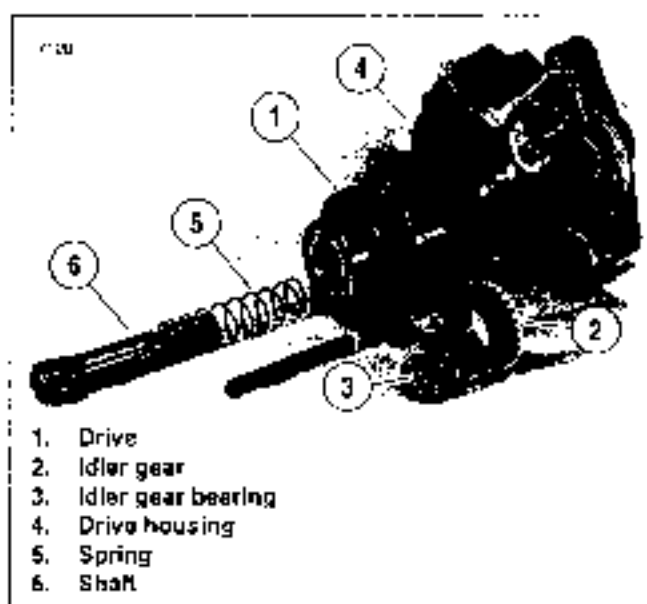

Figure 5-23. Clutch Assembly
17. See Figure 5-23. Remove drive (1), idler gear (2) and idler gear bearing (3). Remove O-ring from groove in drive housing (4).
18. Remove spring (5) and shaft (6).